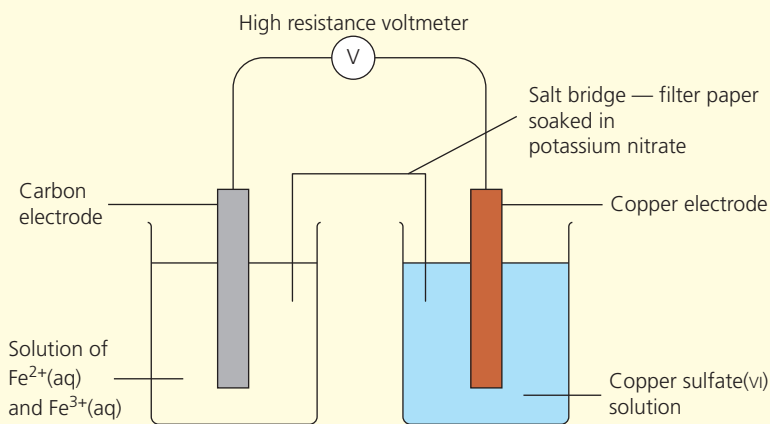

Figure 33 Measuring electrode potentials
In an experiment the cell in Figure 33 was set up with copper as the negative electrode. The cell potential was altered by changing the concentration of the iron(II) ions in the solution to change the position of equilibrium in the half-cell, and the results recorded.